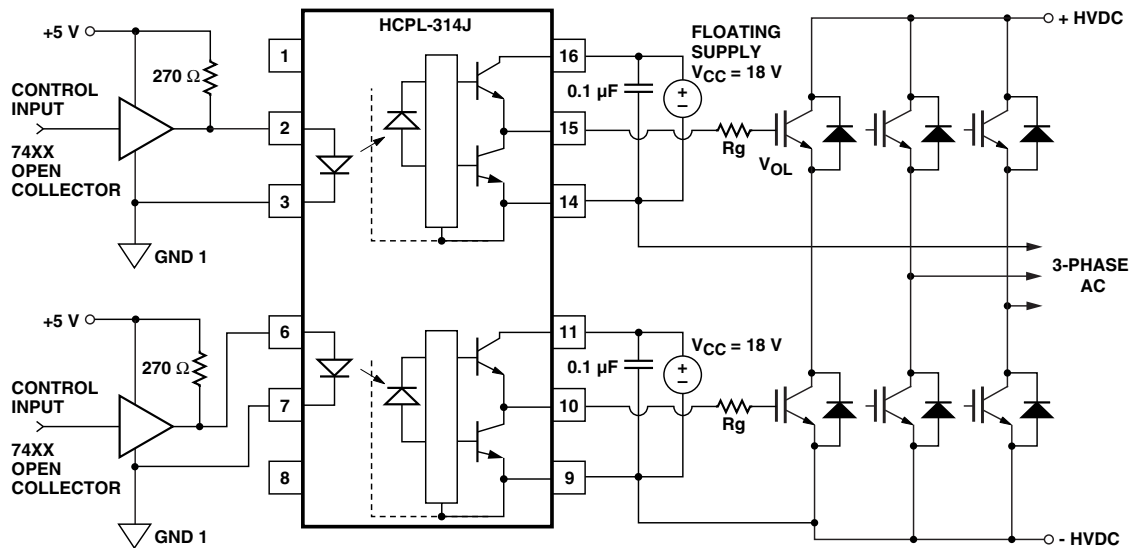
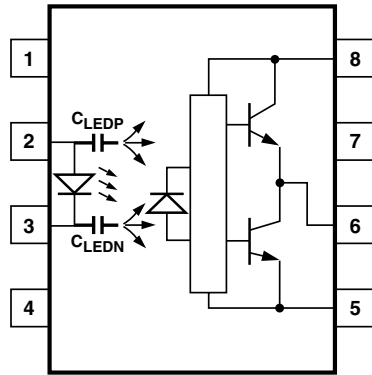
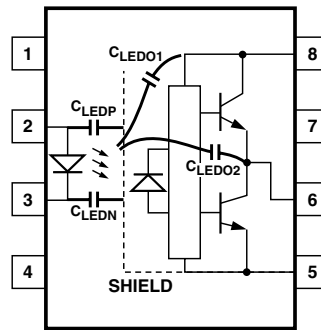
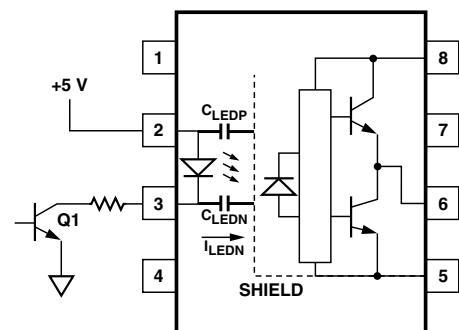

Figure 19. Recommended LED Drive and Application Circuit for HCPL-314J.
Figure 21. Optocoupler Input to Output Capacitance Model for Unshielded Optocouplers.
Figure 22. Optocoupler Input to Output Capacitance Model for Shielded Optocouplers.
Figure 24. Not Recommended Open Collector Drive Circuit.
To keep the IGBT firmly off, the HCPL-314J has a very low maximum V_{OL} specification of 1.0 V. Minimizing R_g and the lead inductance from the HCPL-314J to the IGBT gate and emitter (possibly by mounting the HCPL-314J on a small PC board directly above the IGBT) can eliminate the need for negative IGBT gate drive in many applications as shown in Figure 19. Care should be taken with such a PC board design to avoid routing the IGBT collector or emitter traces close to the HCPL-314J input as this can
result in unwanted coupling of transient signals into the input of HCPL-314J and degrade performance. (If the IGBT drain must be routed near the HCPL-314J input, then the LED should be reverse biased when in the off state, to prevent the transient signals coupled from the IGBT drain from turning on the HCPL-314J.) An external clamp diode may be connected between pins 14 & 15 and pins 9 & 10 (as shown in Figure 19) for the protection of HCPL-314J in the case of IGBTs switching inductive load.
Step 1: Calculate R_g minimum from the I_{OL} peak specification. The IGBT and R_g in Figure 24 can be analyzed as a simple RC circuit with a voltage supplied by the HCPL-314J.
where $K_{ICC} \cdot Q_g \cdot f$ is the increase in I_{CC} due to switching and K_{ICC} is a constant of 0.001 mA/(nC·kHz). For the circuit in Figure 19 with I_F (worst case) = 10 mA, R_g = 32 Ω, Max Duty Cycle = 80%, Q_g = 100 nC, f = 20 kHz and T_{AMAX} = 85°C:
Without a detector shield, the dominant cause of optocoupler CMR failure is capacitive coupling from the input side of the optocoupler, through the package, to the detector IC as shown in Figure 21. The HCPL-314J improves CMR performance by using a detector IC with an optically transparent Faraday shield, which diverts the capacitively coupled current away from the sensitive IC circuitry. However, this shield does not eliminate the capacitive coupling between the LED and optocoupler pins 5-8 as shown in Figure 22. This capacitive coupling causes perturbations in the LED current during common mode transients and becomes the major source of CMR failures for a shielded optocoupler. The main design objective of a high CMR LED drive circuit becomes keeping the LED in the proper state (on or off) during common mode transients. For example, the recommended application circuit (Figure 19), can achieve 10 kV/μs CMR while minimizing component complexity.
The open collector drive circuit, shown in Figure 24, can not keep the LED off during a $+dV_{CM}/dt$ transient, since all the current flowing through C_{LEDN} must be supplied by the LED, and it is not recommended for applications requiring ultra high CMR_1 performance. The alternative drive circuit which like the recommended application circuit (Figure 19), does achieve ultra high CMR performance by shunting the LED in the off state.